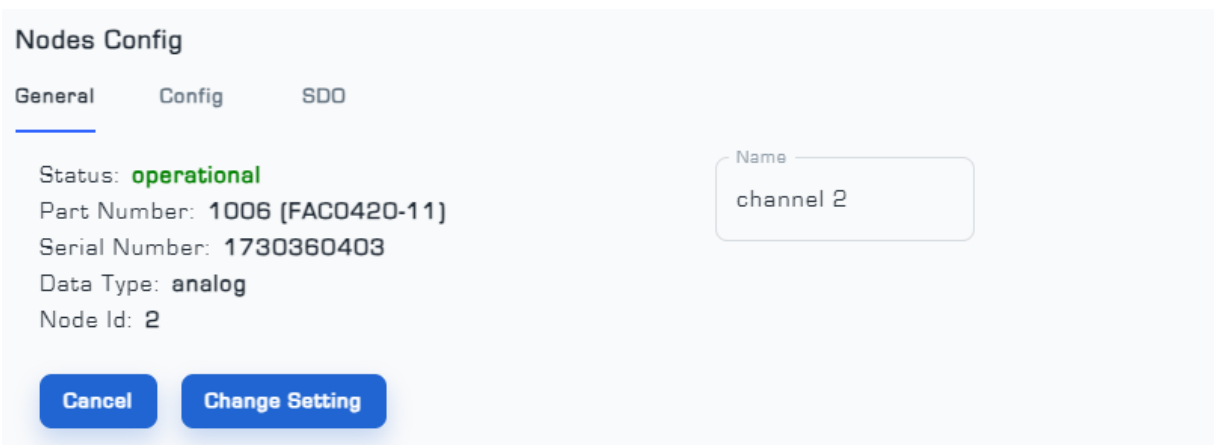

Figure 5: General Menu from Node Setting Page
To apply the settings to the Node, click on it to display the Node settings page (Nodes Config) (Figure 5).
- The General menu includes information about the Node status, model, serial number, input data type, and Node number. You can also choose a custom name for the Node and even deactivate it if necessary (Figure 5).